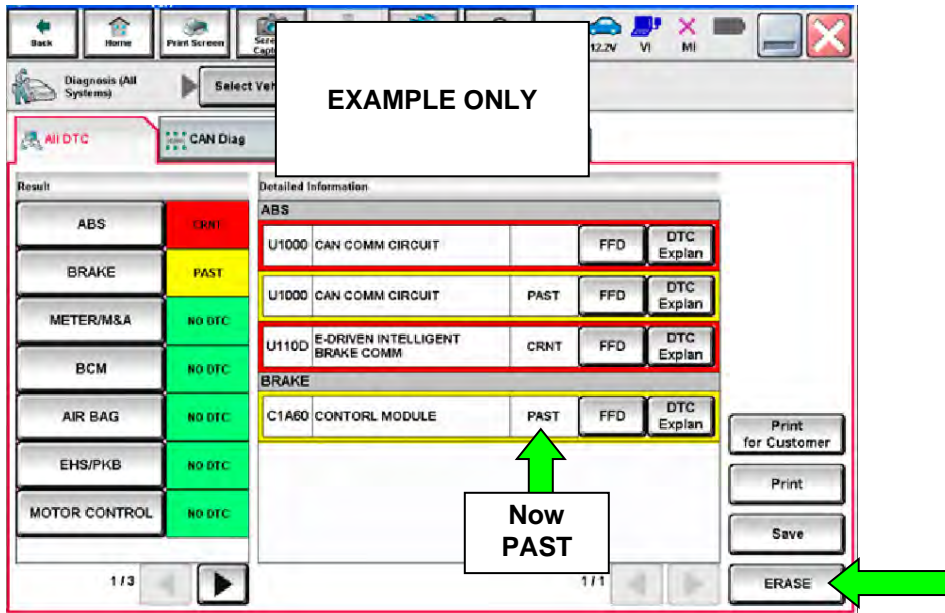

Figure 26
- Figure 26 should now be displayed with several DTCs as CRNT “current” and PAST.